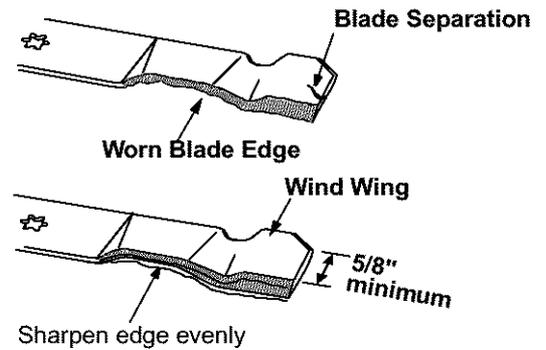

Figure 22
- To properly sharpen the cutting blades, remove equal amounts of metal from both ends of the blades along the cutting edges, parallel to the trailing edge, at a 25° to 30° angle. See Figure 22.
**IMPORTANT:** If the cutting edge of the blade has already been sharpened to within 5/8" of the wind wing radius, or if any metal separation is present, replace the blades. See Figure 22.